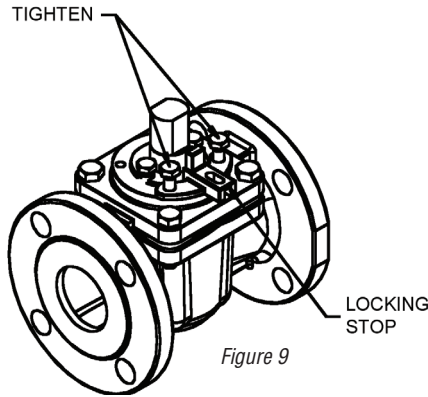

Figure 9
17. Place the locking stop (Part 12) on the top cap as shown in Figure 9 and tighten the locking stop fasteners (Part 13) to a reasonable torque. Check their orientation based on the location marks made during disassembly (Section 3, step 1).